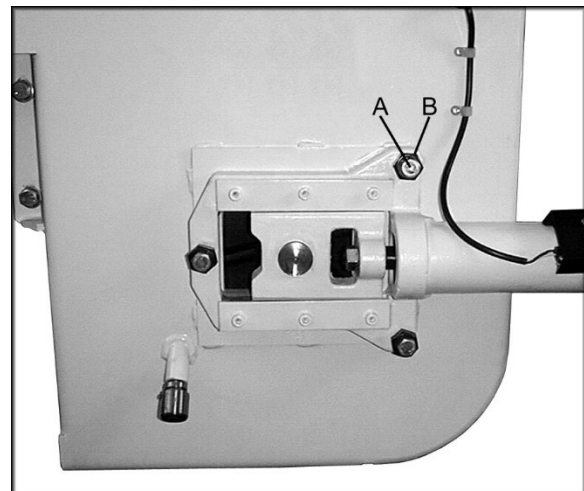

Figure 12
3. Loosen the three bolts (A, Figure 12) located on the top of the tracking nuts.
4. Tracking adjustment is accomplished by either loosening or tightening three adjusting nuts (B, Figure 12).
6. Tighten locking bolts (A) once proper tracking is completed.